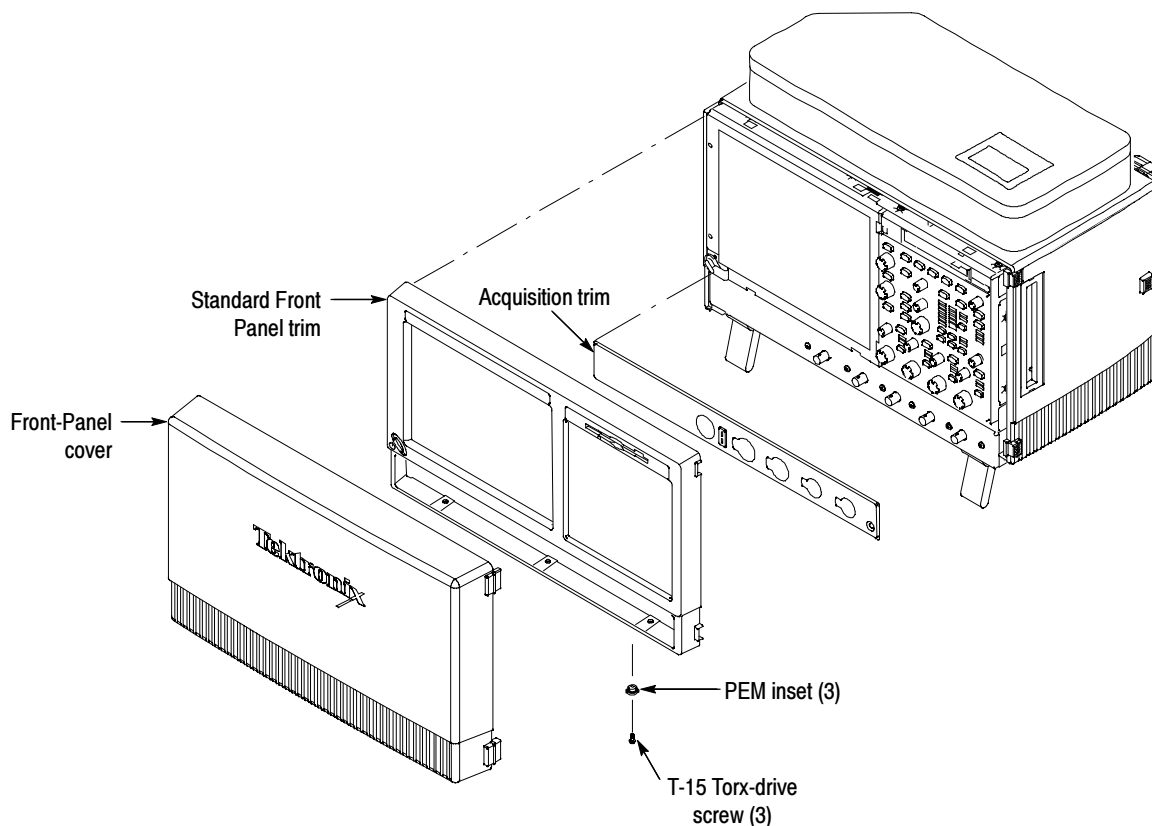

Figure 2: Trim removal
- b. Remove the three T-15 Torx-drive screws that secure the Front-Panel trim to the oscilloscope. See Figure 2 on page 7.
1. Locate the module to be removed: Locate the Front-Panel Assembly, see Figure 2 on page 7. The following procedure replaces the Front subpanel and keypad with the new touch screen button: